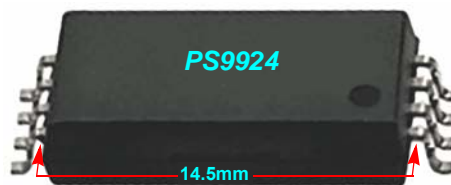

Figure 8. 8 Ld LSDIP Package
- Figure 8. 8 Ld LSDIP Package 4